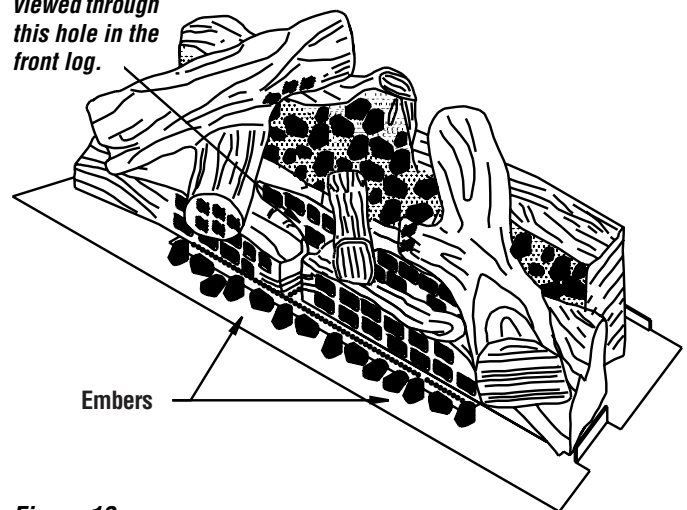

Figure 13
- 8) **Figure 13** shows the entire log set assembled. The embers provided may be placed one high in front of the front burner tube using care not to cover all the burner ports. Any extra embers may be placed at the ends of the front log, off the burner. Place small pinches of rockwool on top of the embers.